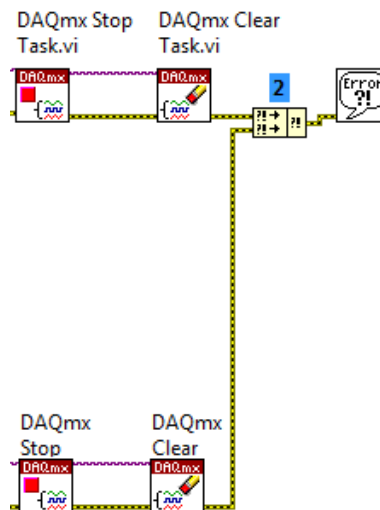

Figure 34. All your error wires are combines so the Simple Error Handler can
19. Wire the error wire from the output of the bottom DAQmx Clear Task VI into the new input of the Merge Errors function. Your code should look like Figure 34.